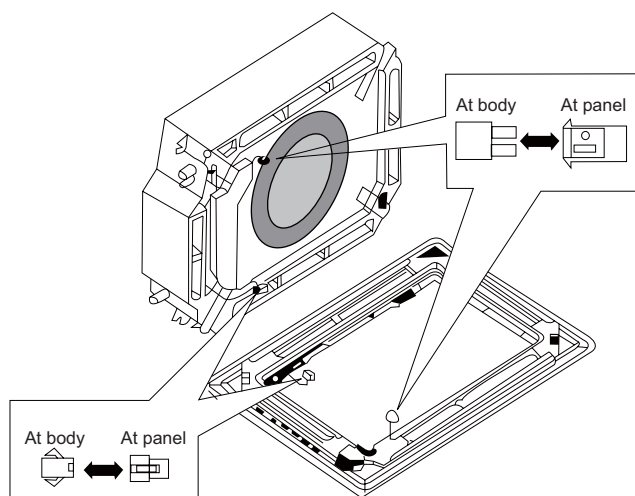

Figure 1-3-16
- ◆ Connect the joints for swing flap motor lead wire (at 2 places) installed on the panel (Refer to Figure 1-3-16)